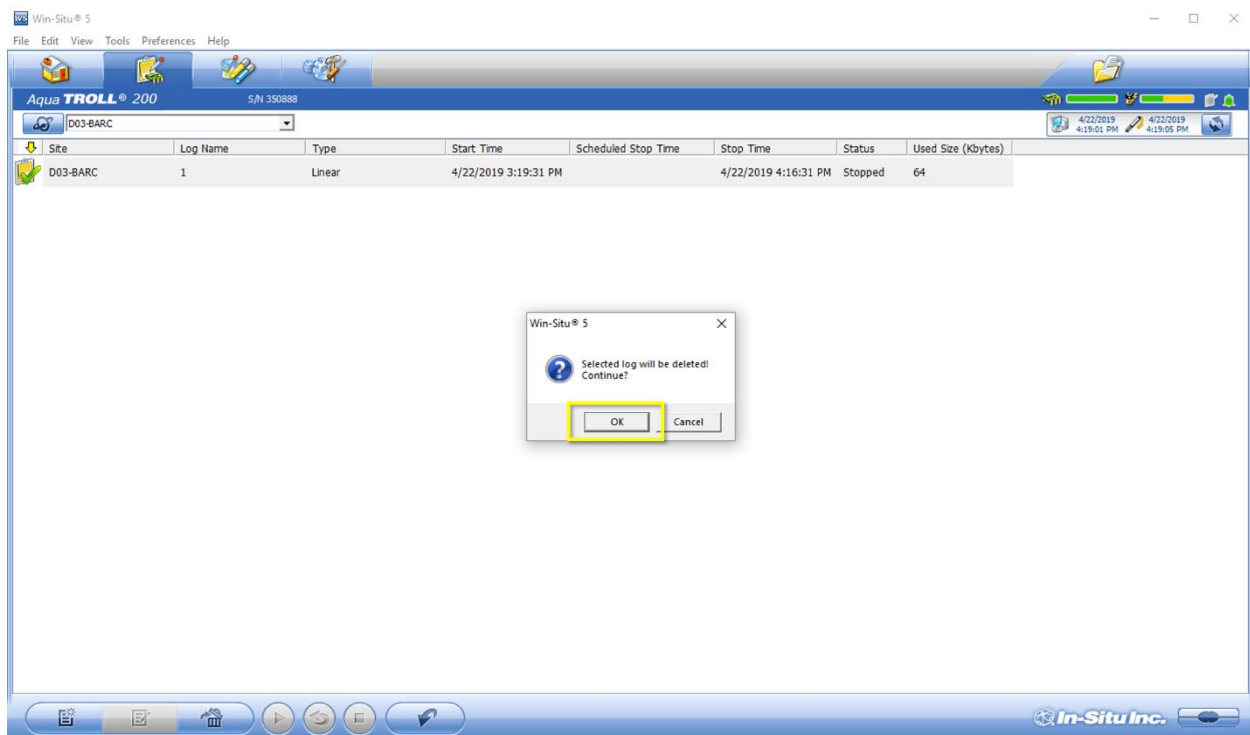

Figure 34. Click "OK" to Proceed when Prompted via the Pop-up Window
2. A pop-up window appears stating the **"Selected log will be deleted! Continue?"** Click **"OK"** to continue (Figure 34).